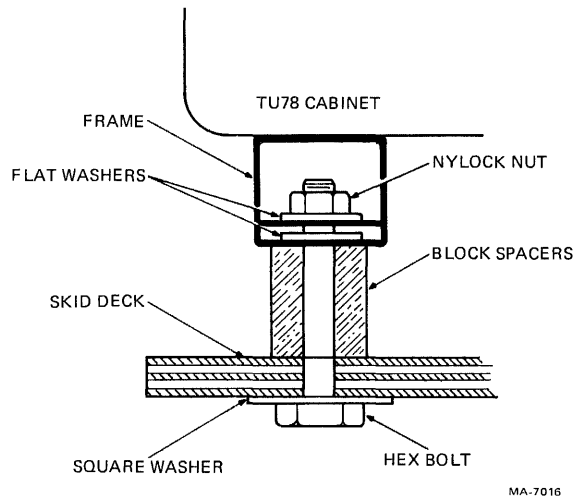

Figure 3-3 TU78 Mounting for Shipment
7. Unbolt the cabinet from the shipping skid. Remove four hex bolts that hold the cabinet frame to the skid deck (Figure 3-3). Discard the bolts, washers, and nuts.
8. Remove and discard the three wooden block spacers located between the cabinet frame and the skid deck. (Figure 3-3).